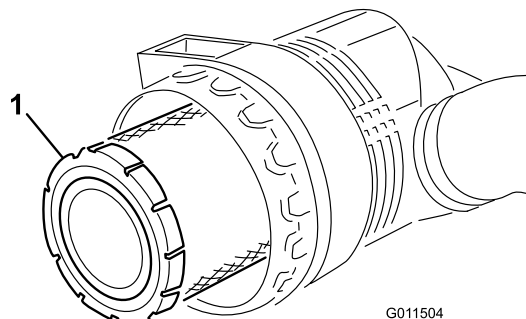

Figure 55
3. Remove and replace the primary filter (Figure 55).